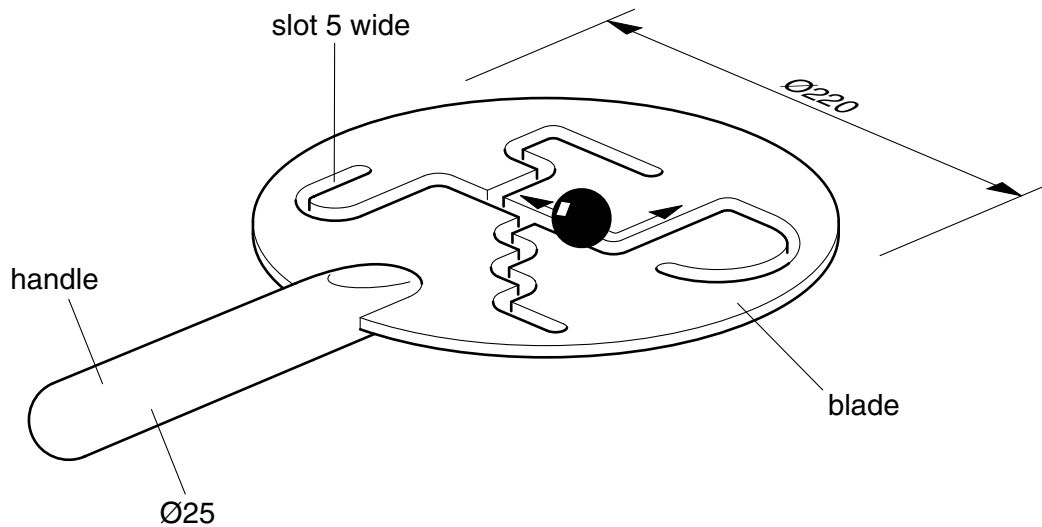

Fig. 10
- 18 Fig. 10 shows an idea for a 'hand paddle' to be used by handicapped people to develop movement skills.